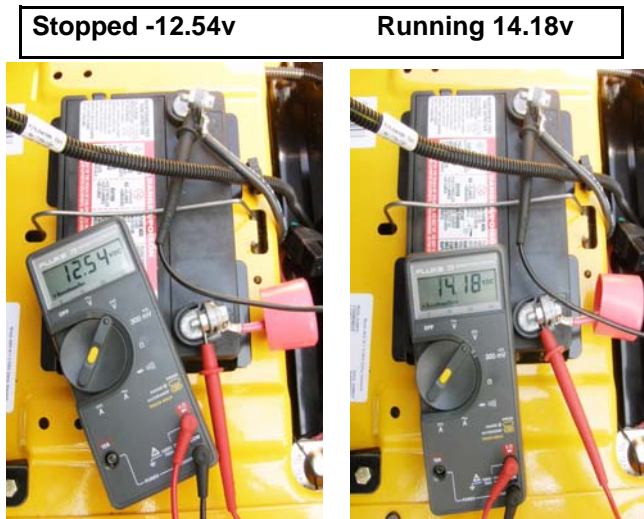

Figure 7.23
3. Quick check, to see if there is a problem. See Figure 7.23.